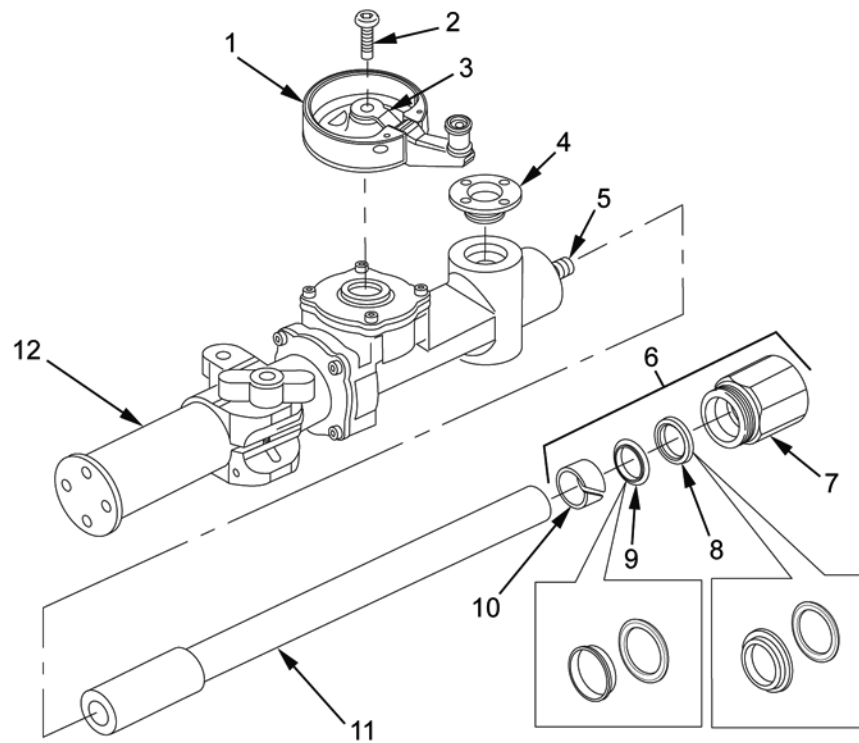

Figure 6. Installation of Hand Crank and Special Nut Assembly.
18. Screw elevation shaft assembly (Figure 6, Item 11) onto straight shaft (Figure 6, Item 5) a minimum of 10 turns.
Ensure that O-ring of plain seal (Figure 6, Item 8) is facing away from special nut.
19. Using seal inserter (WP 0026, Item 9), install new sleeve bushing (Figure 6, Item 10), new plain seal (Figure 6, Item 9), and new plain seal (Figure 6, Item 8) into special nut (Figure 6, Item 7).
20. Install hand crank (Figure 6, Item 1), ensuring flat spring (Figure 6, Item 3) is in place, and secure with socket head capscrew (Figure 6, Item 2). Tighten until seated.
21. Insert seal inserter (WP 0026, Item 9) into elevation shaft assembly (Figure 6, Item 11). Using seal inserter, slide special nut (Figure 6, Item 6) over seal inserter and elevation shaft assembly.
22. Apply sealing compound (WP 0032, Item 22) to threads of special nut (Figure 6, Item 7). Install special nut assembly (Figure 6, Item 6) to elevation housing assembly (Figure 6, Item 12). Tighten.
23. Thread special nut (Figure 6, Item 7) onto elevation housing assembly (Figure 6, Item 12).
24. Apply sealing compound (WP 0032, Item 23) to threads of socket head capscrew (Figure 6, Item 2).
25. Install hand crank (Figure 6, Item 1) and secure with socket head capscrew (Figure 6, Item 2). Hand tighten capscrew.
26. If sleeve nuts were removed, apply thread locking compound (WP 0032, Item 22) to threads of two sleeve nuts (Figure 6, Item 4).
27. Install two sleeve nuts (Figure 6, Item 4) to elevation housing assembly (Figure 6, Item 12). Using face wrench socket, torque to 49.5 - 60.5 ft•lb (75 N•m).